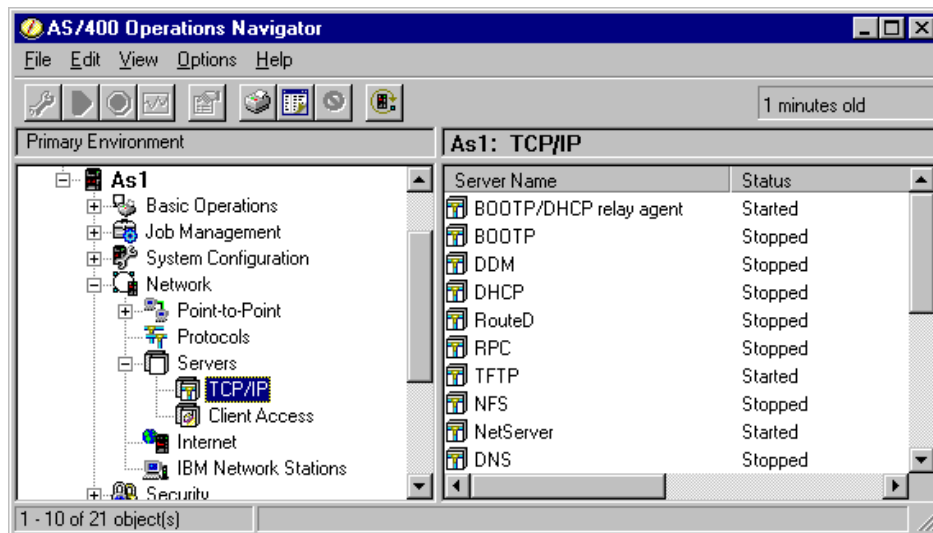

Figure 88. AS/400 Operations Navigator - TCP/IP Server Status
11. From Operations Navigator, right-click **BOOTP/DHCP relay agent**. Select **Start** to start the server. The resulting status display is shown in Figure 88 on page 180.